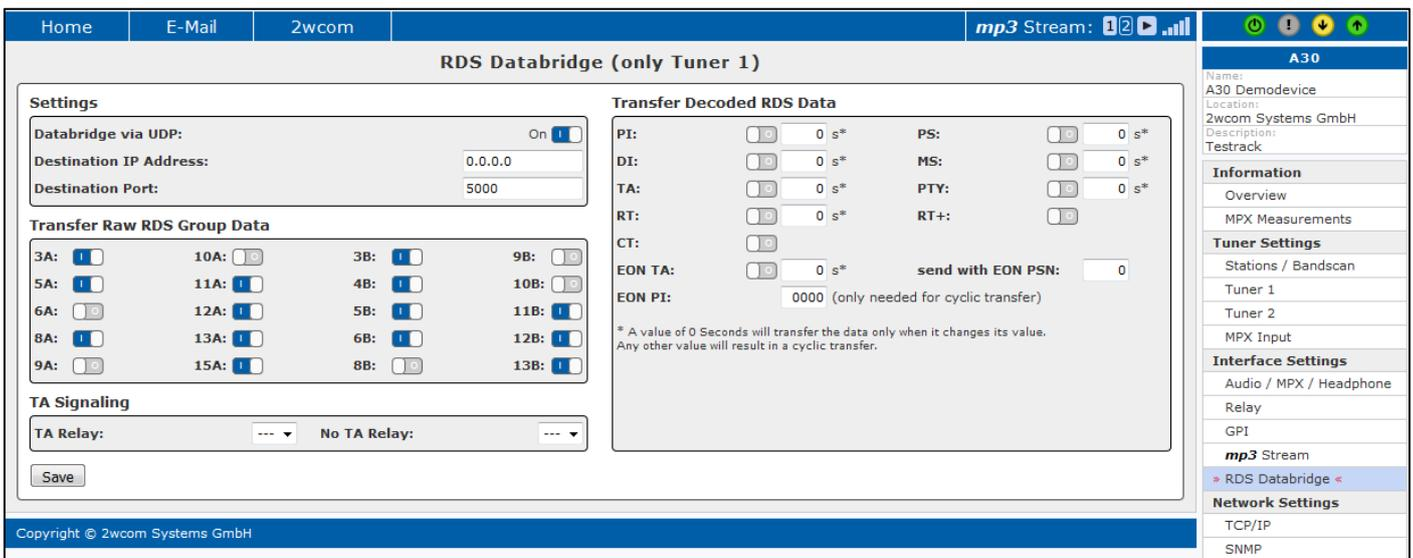

Fig. 46: A30 RDS Databridge –RDS data configuration
Some data can only be transferred after being decoded completely like PI, PS, TA or RT. For each of that RDS data you can configure, if it should be transferred to the connected RDS encoder or not. Normally a UECP command would only be sent to the encoder, if the corresponding RDS data has changed. This should be sufficient in most cases. For safety reasons you may however decide to specify an **additional time** period in seconds for **cyclic transfer** (see Fig. 46). If the time has elapsed, the A30 will unconditionally send a UECP command with the current RDS data to the encoder. Specifying a value of **zero seconds** (default) will transfer the data only when it changes its value.
EON-TA is special in some regards: When an **EON-TA** is decoded, the A30 cannot know the PSN, in which it has to set the TA for EON-TA. This depends on the setup of the connected RDS encoder. It's therefore necessary, that you specify the **PSN**, if EON-TAs should be transferred (see Fig. 46). If you also want **cyclic transfer for EON-TA**, the **PI** of the EON-PSN has to be specified, too, so that the A30 can look up the current state of the EON-TA. Dynamic data like ODA (3A group), Inhouse (6A group) or TMC (8A group) can be 1:1 transferred as raw RDS group data using the Free Format Group (FFG) UECP command. You can individually specify, which raw RDS groups should be transferred.
There's a special handling for RT+: If you are sending RT+ data, there's the problem that the A30 has to receive the RadioText completely at least once before it can generate the corresponding command for the connected RDS encoder. This short delay is bad for the corresponding RT+ data sent in e.g. the 12A group, as the relation between RT and RT+ is only handled by the order in which the information is received. If you enable the **special RT+ handling** (see Fig. 46), the A30 will take care of the retransmission of the RT+ data; it will find the raw RDS group used for the RT+ data via the 3A group information for the RT+ AID and will delay newly received RT+ data until the corresponding RadioText has been received completely and sent to the RDS encoder to keep both in sync. You should omit the **corresponding RDS group** (e.g. 12A) from the direct 1:1 transfer and just enable the **RT+** checkbox (see Fig. 46). The information in the **3A group** should however be enabled for 1:1 transfer.
3. In the “Transferred decoded RDS data” block enable RDS parameters that should be transferred. If any parameter is not selected, it will not be transferred (see Fig. 46).
NOTE: The abbreviations of the RDS data are explained below the Fig. 46.
1. Open the menu *RDS Databridge* under **Interface Settings**→**RDS Databridge** (see Fig. 46).